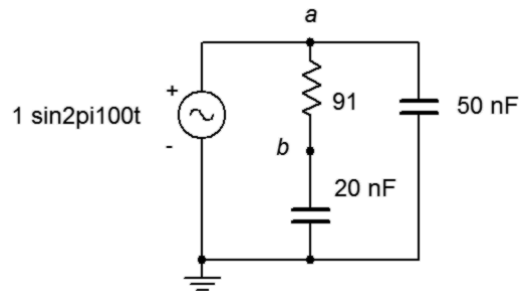

Figure 5.21
41. For the circuit of Figure 5.21, determine the Thévenin equivalent that drives the $20\ \text{nF}$ capacitor.
42. Given the circuit of Figure 5.21, determine the Norton equivalent that drives the $20\ \text{nF}$ capacitor.